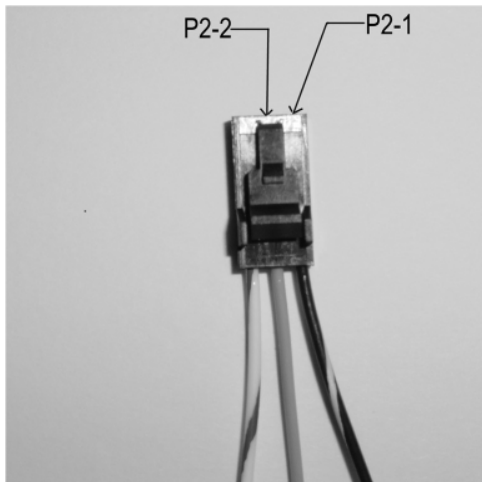

Figure 15. Potentiometer Connector P2 Pins 1 and 2
10. Carefully remove two screws (*Figure 15*, item 140) from adapter plate (60) and remove adapter plate from motor.
12. Remove four mounting screws (50) from bottom of base (10) and remove motor.